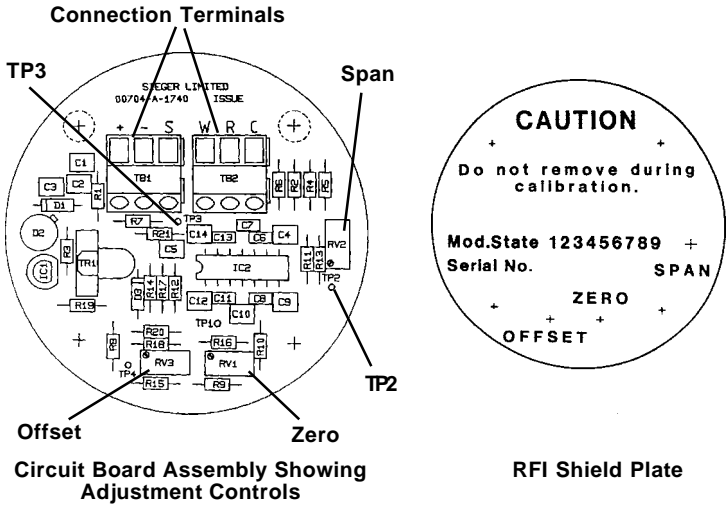

Figure 7 Connections
Two 3-way terminals blocks are provided on the pcb in the terminal enclosure to enable connections from the sensor and to equipment in the safe area to be made. For wiring details see Figure 7.
- (1) Allow a minimum warm-up period of 1 hour after applying power before carrying out this procedure.
- (2) Insert the Digital Multimeter (DMM), set to read current, in series with the 4 - 20mA line.
- (3) Ensure that the sensor is in a gas-free atmosphere then, if necessary, adjust the ZERO control for 4mA on the DMM.
- (4) Gas the sensor as instructed in Section 6 'Gassing the Sensor'. After 3 minutes, set the SPAN control to obtain a 20mA indication on the DMM for 50ppm CO.
- (5) If procedures (3) and (4) cannot be achieved, adjust the OFFSET control as follows:
- a. Connect the DMM (set to read mV) between TP2 and TP3 on pcb. (see Figure 7).
- e. Repeat steps (3) and (4). Remove the gas adaptor and allow sufficient time for the test gas to escape.
- (6) Turn off the test gas and check the DMM indicates 4mA. If not, adjust the ZERO control for a DMM reading of 4mA.